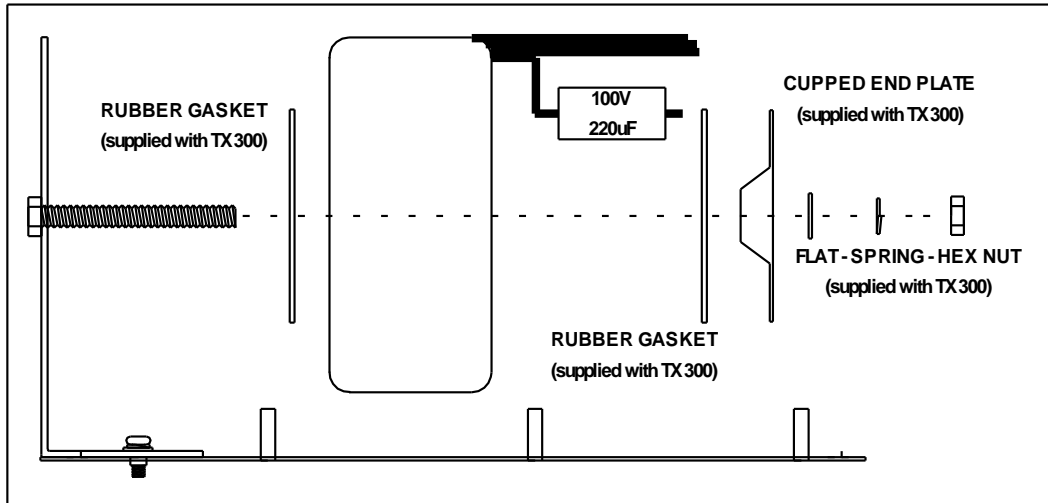

Figure 19 Step 2 mounting 150W audio transformer onto Brooks angle bracket
3. Mount the transformer on angle bracket using the hardware supplied with the transformer as shown in Figure 19 on page 26.